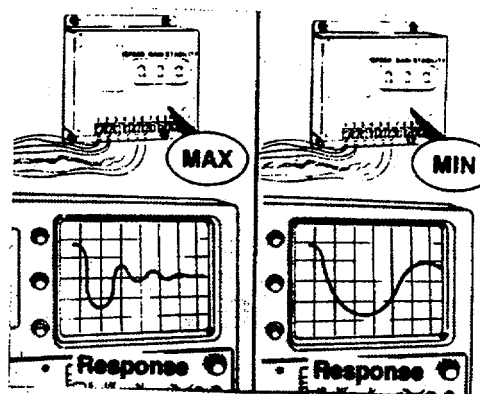

FIGURE 3-23. Optimum Adjustment.
- (c) Optimum adjustment.(FIGURE 3-23)